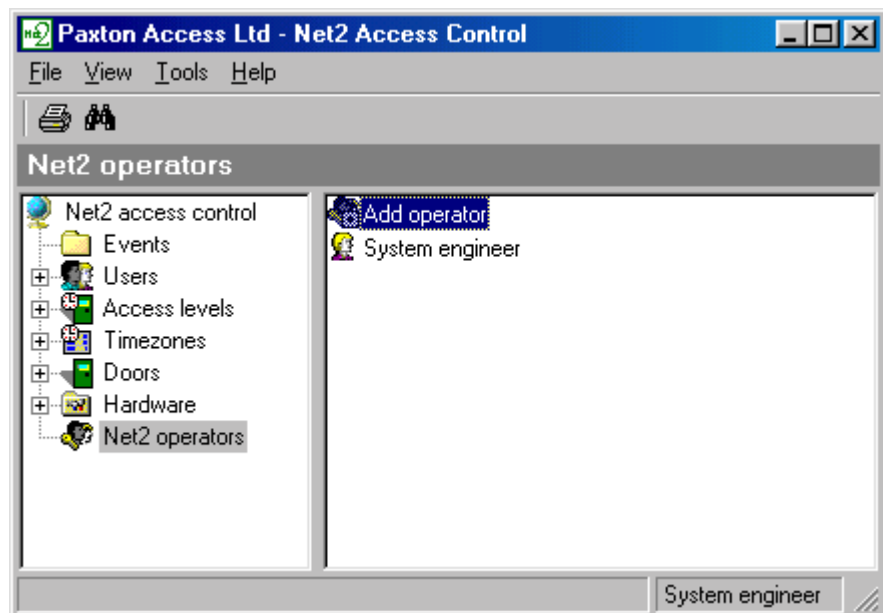

Figure 4.1
1. Double click on **Add operator**, see figure 4.1.